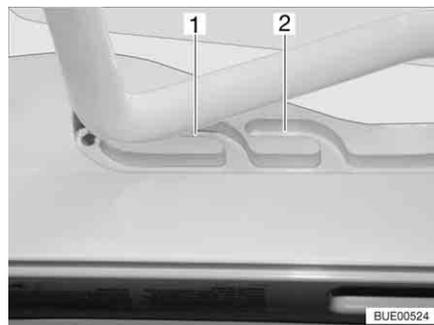

Fig. 20 Hinged skylight in ventilation position
The hinged skylight can be put in two ventilation positions: Bad weather position (Fig. 20,1) and central position (Fig. 20,2).
- Push the bar slightly upwards and into the selected guide (Fig. 20,1 or 2).